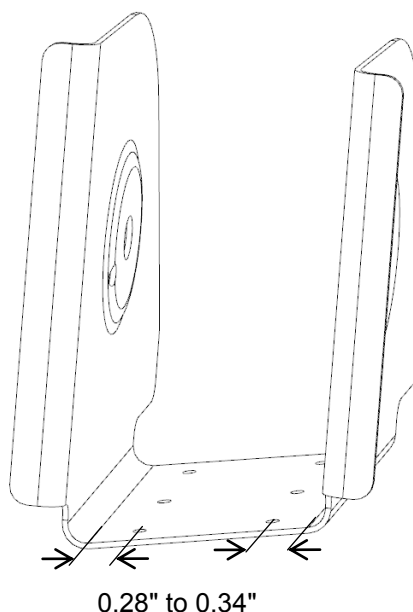

Figure 5-6: Correctly Dimensioned Bracket
4. If either the first or second condition exists, inspect rudder cable pulley bracket for the dimensions shown in **Figure 5-6**. The dimension from the center of the riveted hole to the start of the inner bend radius must be 0.28 inch to 0.034 inch.
2. If there is uneven wear (Condition 1), but the rudder pulley bracket meets the criteria in **Figure 5-6**, contact Quest Customer Service.
3. If there is cable damage or corrosion (Condition 2), but the rudder pulley bracket meets the criteria in **Figure 5-6**, order and replace rudder cables in accordance with the *KODIAK[®] 100 Airplane Maintenance Manual*. Notify Quest Customer Service of findings.